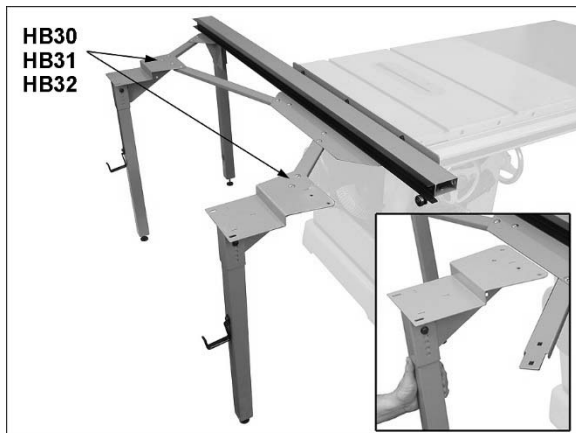

Figure 7-8
2. Position each left leg bracket assembly up against adjustment plate to establish initial height. See inset, Figure 7-8. Change screw hole in leg bracket and/or adjust leveler until surfaces of leg bracket and adjustment plate are flush.
3. Install the two left leg assemblies to the linkages, with 6 carriage bolts, washers and cap nuts, as shown in Figure 7-8. *Finger tighten only.*